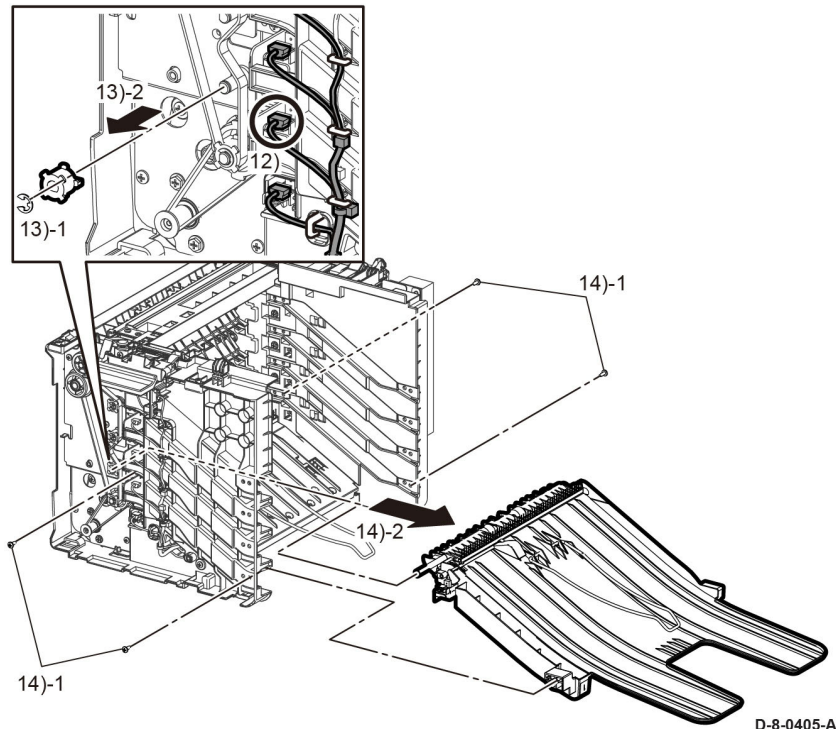

Figure 4 1st tray assembly removal
12. Disconnect connector P/J8932, Figure 4.
13. Remove the components that follow, Figure 4:
14. Remove the components that follow, Figure 4: